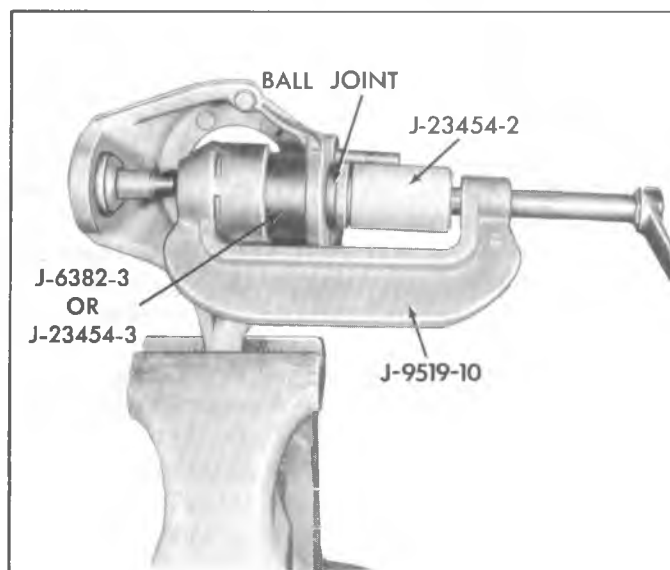

Fig. 3C-14K--Installing Upper Ball Joint
4. Install the upper ball joint into the knuckle. Press the stud into the knuckle until properly seated using Tools J-9519-10, J-23454-2, and J-23454-4 or equivalent as shown in Figure 3C-14K.